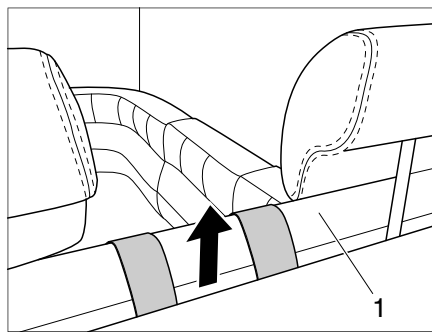
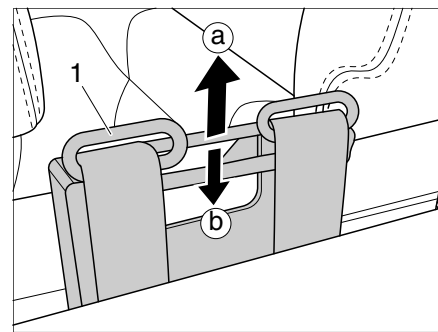

Fig. 17 Belt pull-out countersunk
Fig. 18 Belt extension pulled out
The Alfa 7820 is equipped with a belt extension that must be pulled out before the seat belt can be fastened (Fig. 17).
- Reach behind the seat (Fig. 17,1) and pull the belt extension (Fig. 18,1) up as far as it will go (a).
- Briefly pull the belt pull-out (Fig. 18,1) up (a) and then press it down (b) until it is sunk behind the seat.